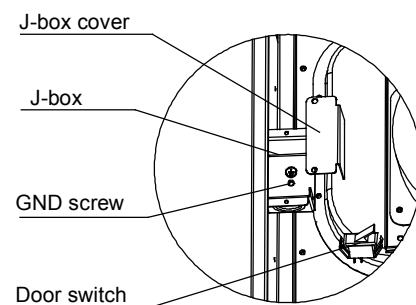
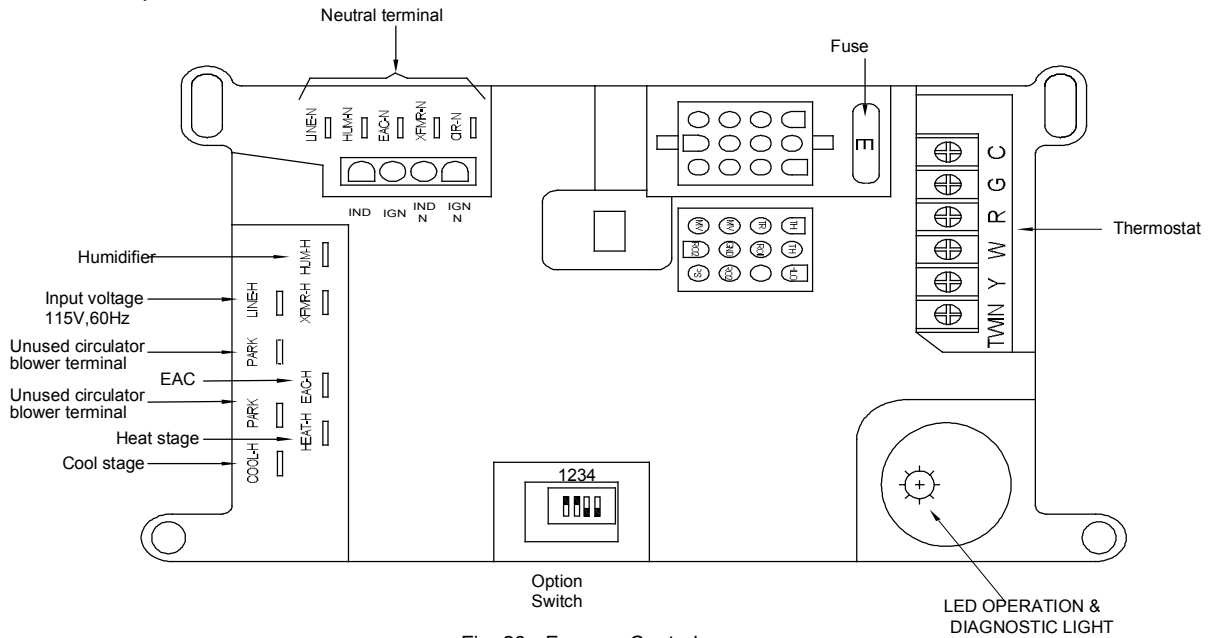
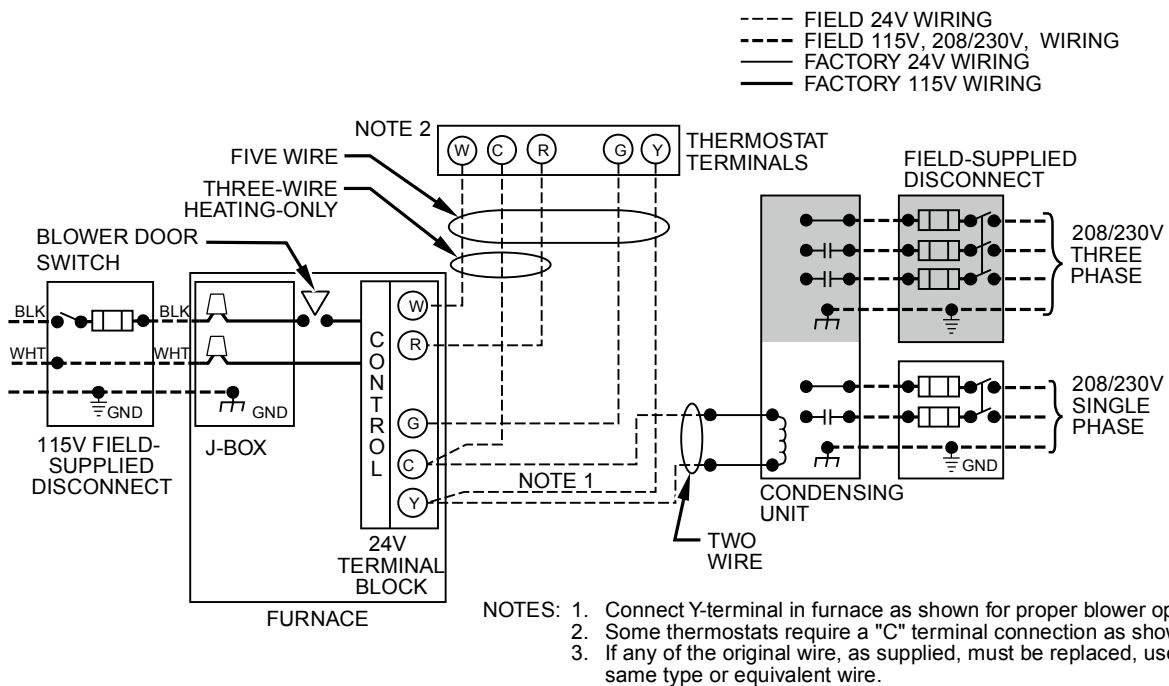

Fig. 25 - J-box
Fig. 26 - Furnace Control
Fig.27 - Heating and Cooling Application Wiring Diagram with I-Stage Thermostat
Field-Supplied Electrical Box on Furnace J-Box Bracket See Fig. 25.
5. Connect line voltage leads as shown in Fig. 27.
Electrical Box on Furnace Casing Side. See Fig. 25 and Fig 27.
- Remove and save two screws holding J-Box. (See Fig. 25.)
- Complete electrical box wiring and installation. Connect line voltage leads as shown in Fig. 27. Use best practices (NEC in U.S. and CSA C22.1 in Canada) for wire bushings, strain relief, etc.
- Connect line voltage leads as shown in Fig. 27.
Make field 24V connections at the 24V terminal strip. (See Fig. 26.) Connect terminal Y/Y2 as shown in Fig. 25 for proper cooling operation. Use only AWG No. 18, color-coded, copper thermostat wire.
Connect an accessory Electronic Air Cleaner (if used) using 1/4-in female quick connect terminals to the two male 1/4-in quick-connect terminals on the control board marked EAC-H and EAC-M. The terminals are rated for 115V AC, 1.0 amps maximum and are energized during blower motor operation. (See Fig. 26.)
Connect an accessory 115V AC, 0.5 amp. maximum humidifier (if used) to the 1/4-in male quick-connect HUM-H terminal and HUM-N terminal on the control board. The HUM terminal is energized when gas valve relay (GVR) is energized. (See Fig. 26.)
1. Maintain 115V wiring and ground. Improper polarity will result in rapid flashing LED and no furnace operation. (See Fig. 27)
2. Make thermostat wire connections at the 24-V terminal block on the furnace control. Failure to make proper connections will result in improper operation. (See Fig. 27.)
(See Fig. 27 for thermostat connections.)
(See Fig. 27 for thermostat connections)